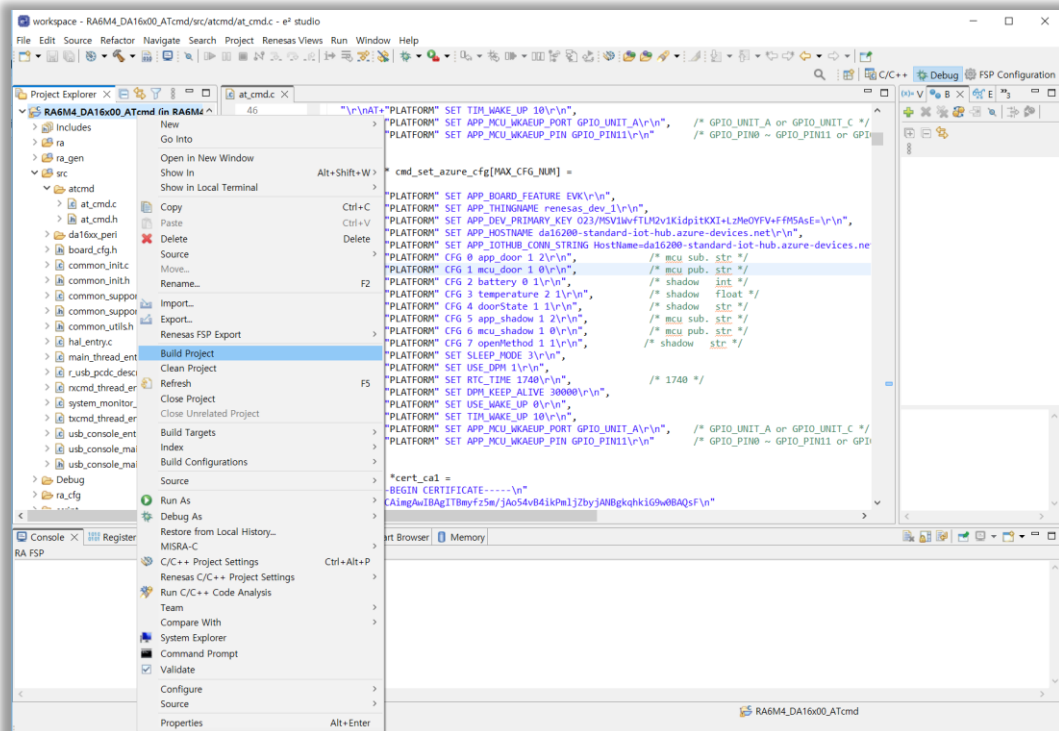

Figure 52: Build Project
5. Select project > Build all to build (see Figure 52).